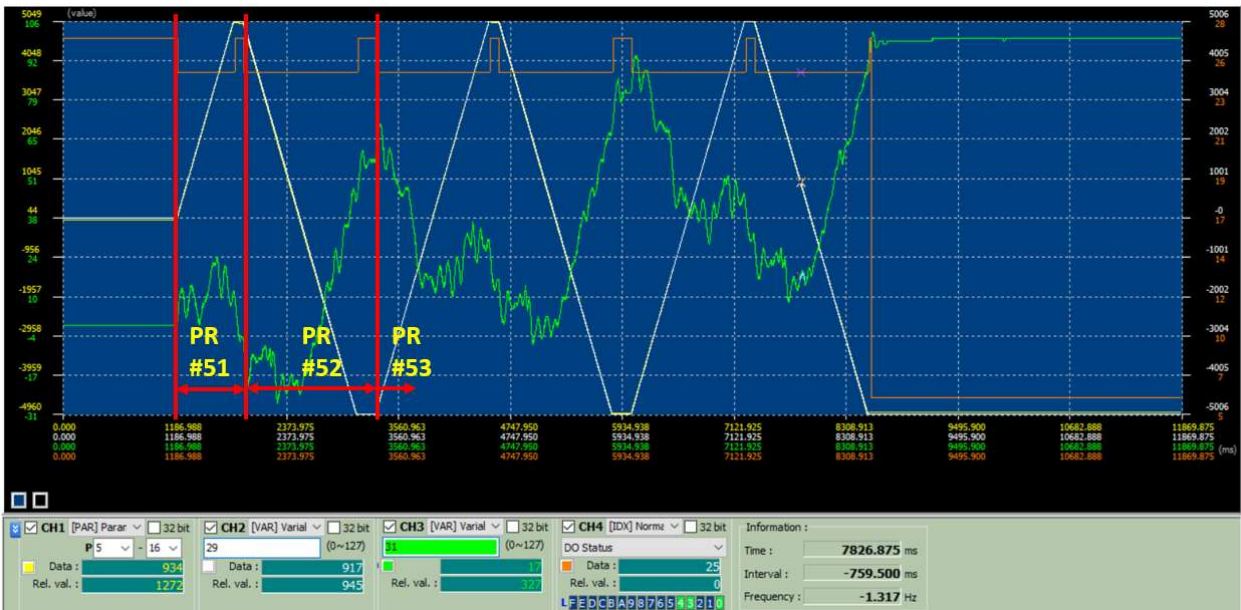

Fig.32 – Monitored scope data
4. Trigger PR#51 to start the cyclic movement and record the waveform. The result is shown in Fig.32 while the section of each PR# is remarked in red and yellow.